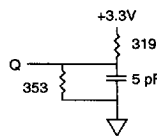

Fig. 2 OUTPUT LOAD EQUIVALENT
- ¹HZCE and ¹HZWE are specified with C_L = 5pF as in Fig. 2. Transition is measured ±200mV from steady state voltage.